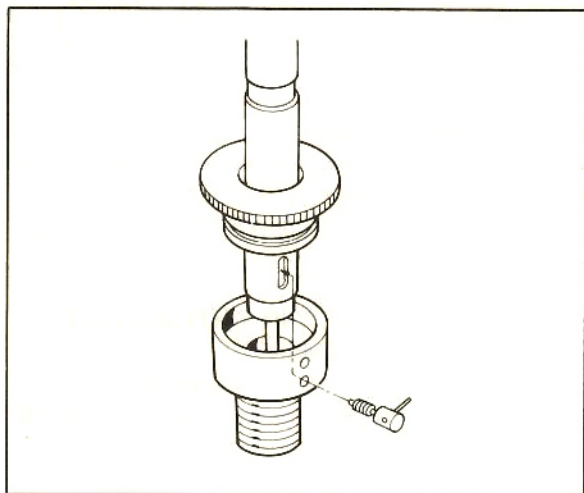

Fig. 2-13. Tonearm reinstallation
4. When reassembling the base, care should be taken that the lock lever meets with the slot on the tonearm shaft as shown in Fig. 2-13.